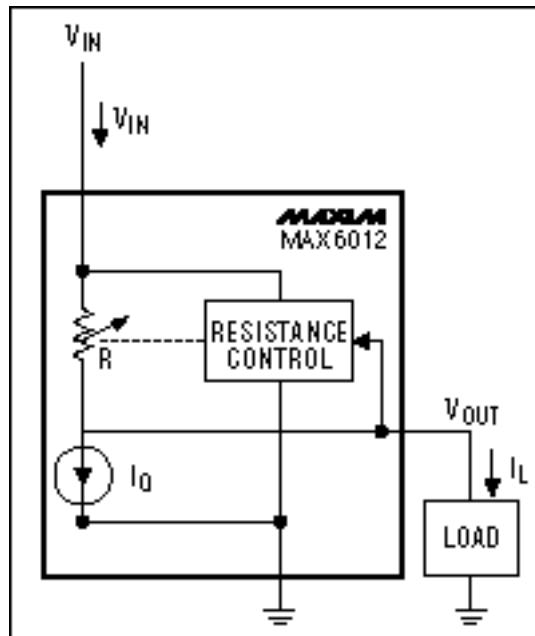

Figure 2. A series reference (its regulating part) is connected in series with its load.
The series reference operates in series with its load (Figure 2). It can be viewed as a voltage-controlled resistance in which V_{OUT} controls an internal resistance between the reference's input and output terminals. A series reference regulates by creating a voltage drop between its input and output, which is equal to the product of the load current and the controlled internal resistance. With no load applied, the series reference draws a small amount of current (I_Q) through the internal resistance (R) to drop a voltage between input and output necessary to produce the correct V_{OUT} .